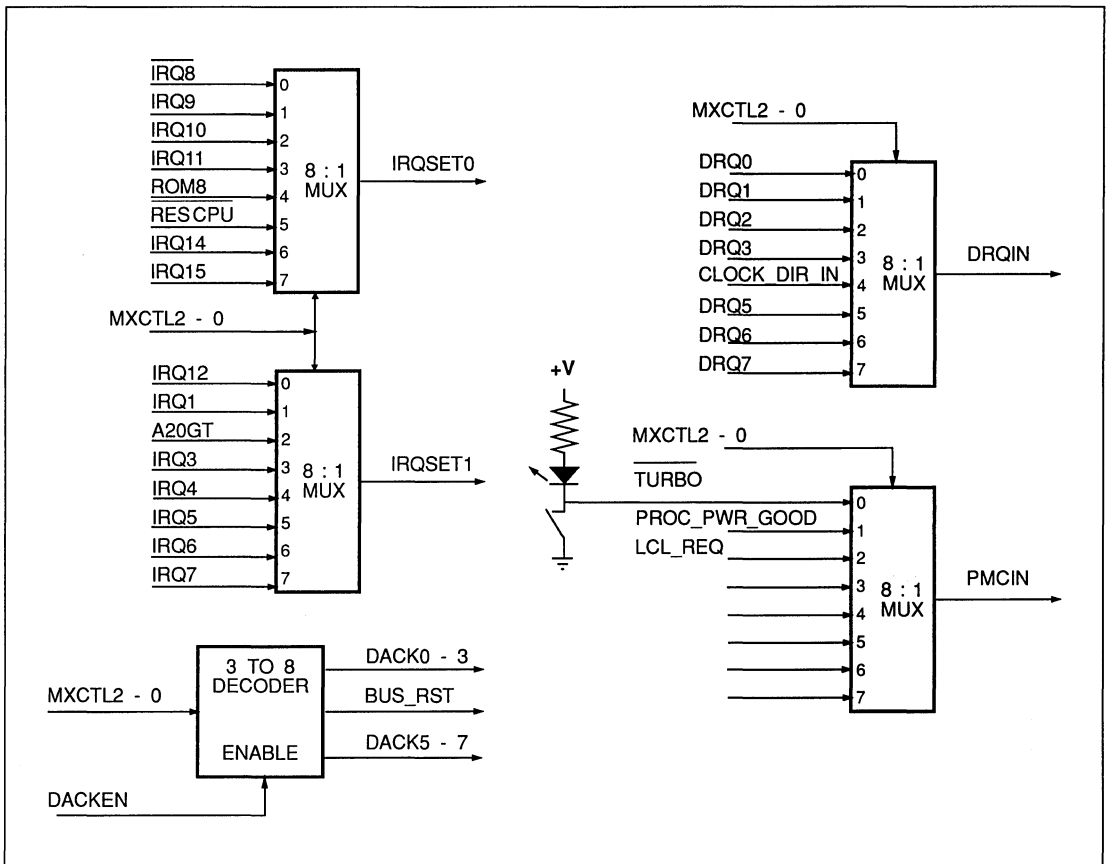

FIGURE 5-1. MXCTL2-0 MULTIPLEXING
* Based upon the value of CLOCK_DIR_IN at power up (refer to Table 5-1, Figure 5-1 and section 5.1.2).
To reduce the number of pins required, the System Controller generates and outputs the MXCTL2-0 and DACKEN signals used by external logic to multiplex the DACKs, DRQs and IRQs down to single inputs. See Figure 5-1.
Immediately following a System Reset ($\overline{\text{RSTIN}}$), DRQIN input 100 is sampled. If low, the processor clock (CPUCLK) pin is an output. If high, the CPUCLK starts as an output but is switched to an input shortly after $\overline{\text{RSTIN}}$ is de-asserted. See Table 5-1 and Figure 5-1. This controls the default value of CLK_SPD in the CPU Clock (CPUCLK) Control Register at Port 1072H. See section 4.2.4.
The Interrupt Requests are multiplexed by the WD76C30. The multiplexing is performed as shown in Table 5-1 and Figure 5-1, and provides the System Controller with the IRQSET1 and IRQSET0 signals.
The power control signals are placed on the PMCIN input pin by way of an eight to one multiplexer, controlled by the MXCTL2-0 signals from the System Controller. In the WD76C10A, the TURBO signal may be connected directly to PMCIN. In the WD76C10ALP, the external 8:1 MUX is always used. See Figure 5-1. Bits 14 and 13 of Port 1872H (Section 5.3) control the power down of the processor and peripheral.
When a PMC interrupt occurs, PMC output 7 at Port 7072H is reset, enabling the power up sequence. A CPURES and BUS_RST (see Figure 5-1) are asserted until the PMCIN 01 PPG at Port 8872H input is high. The tristated outputs are restored and the inputs are no longer masked.